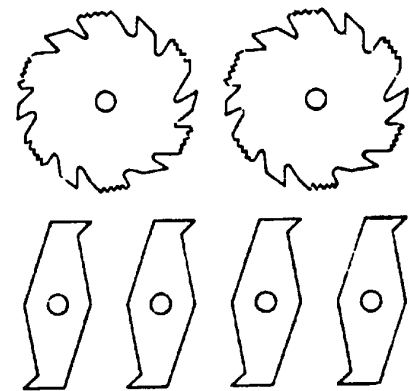
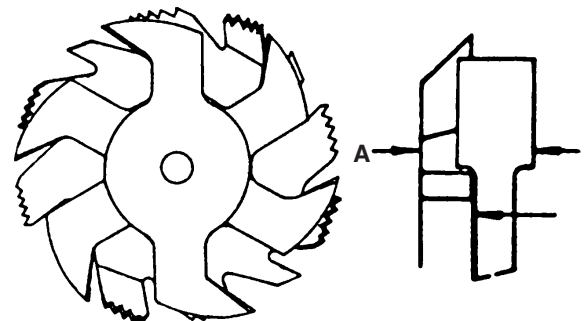

FIGURE 25
FIGURE 26
Dadoing is cutting a rabbet or a wide groove into the work. Most dado head sets are made up of two outside blades and four or five inside cutters, as shown in Fig.25. Various combination of saws and cutters are used to cut grooves from 1/8" to 13/16" for use in shelving, making joints, tenoning, grooving, ect. The cutters are heavily swaged and must be arranged so that this heavy portion falls in the gullet of the outside blades, as shown in Fig.26. The saw and cutter overlap is shown in Fig.26 (A) being the outside blade, (B) and inside cutter, and (C) a paper washer which can be used as needed to control the exact width of groove. A 1/4" groove is cut by using the two outside blades. The teeth of the blades should be positioned so that the raker on one saw is beside the cutting teeth on the other saw.